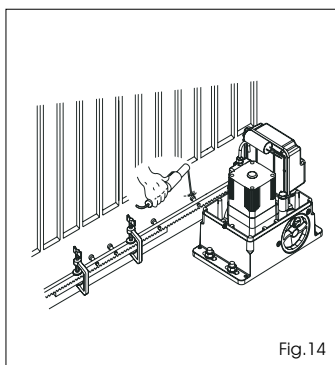

Fig.14
- 5) Position another rack element end to end with the previous one, using a section of rack (as shown in Fig. 14) to synchronise the teeth of the two elements.
- 5) Position another rack element end to end with the previous one, using a section of rack (as shown in figure 14) to synchronise the teeth of the two elements.